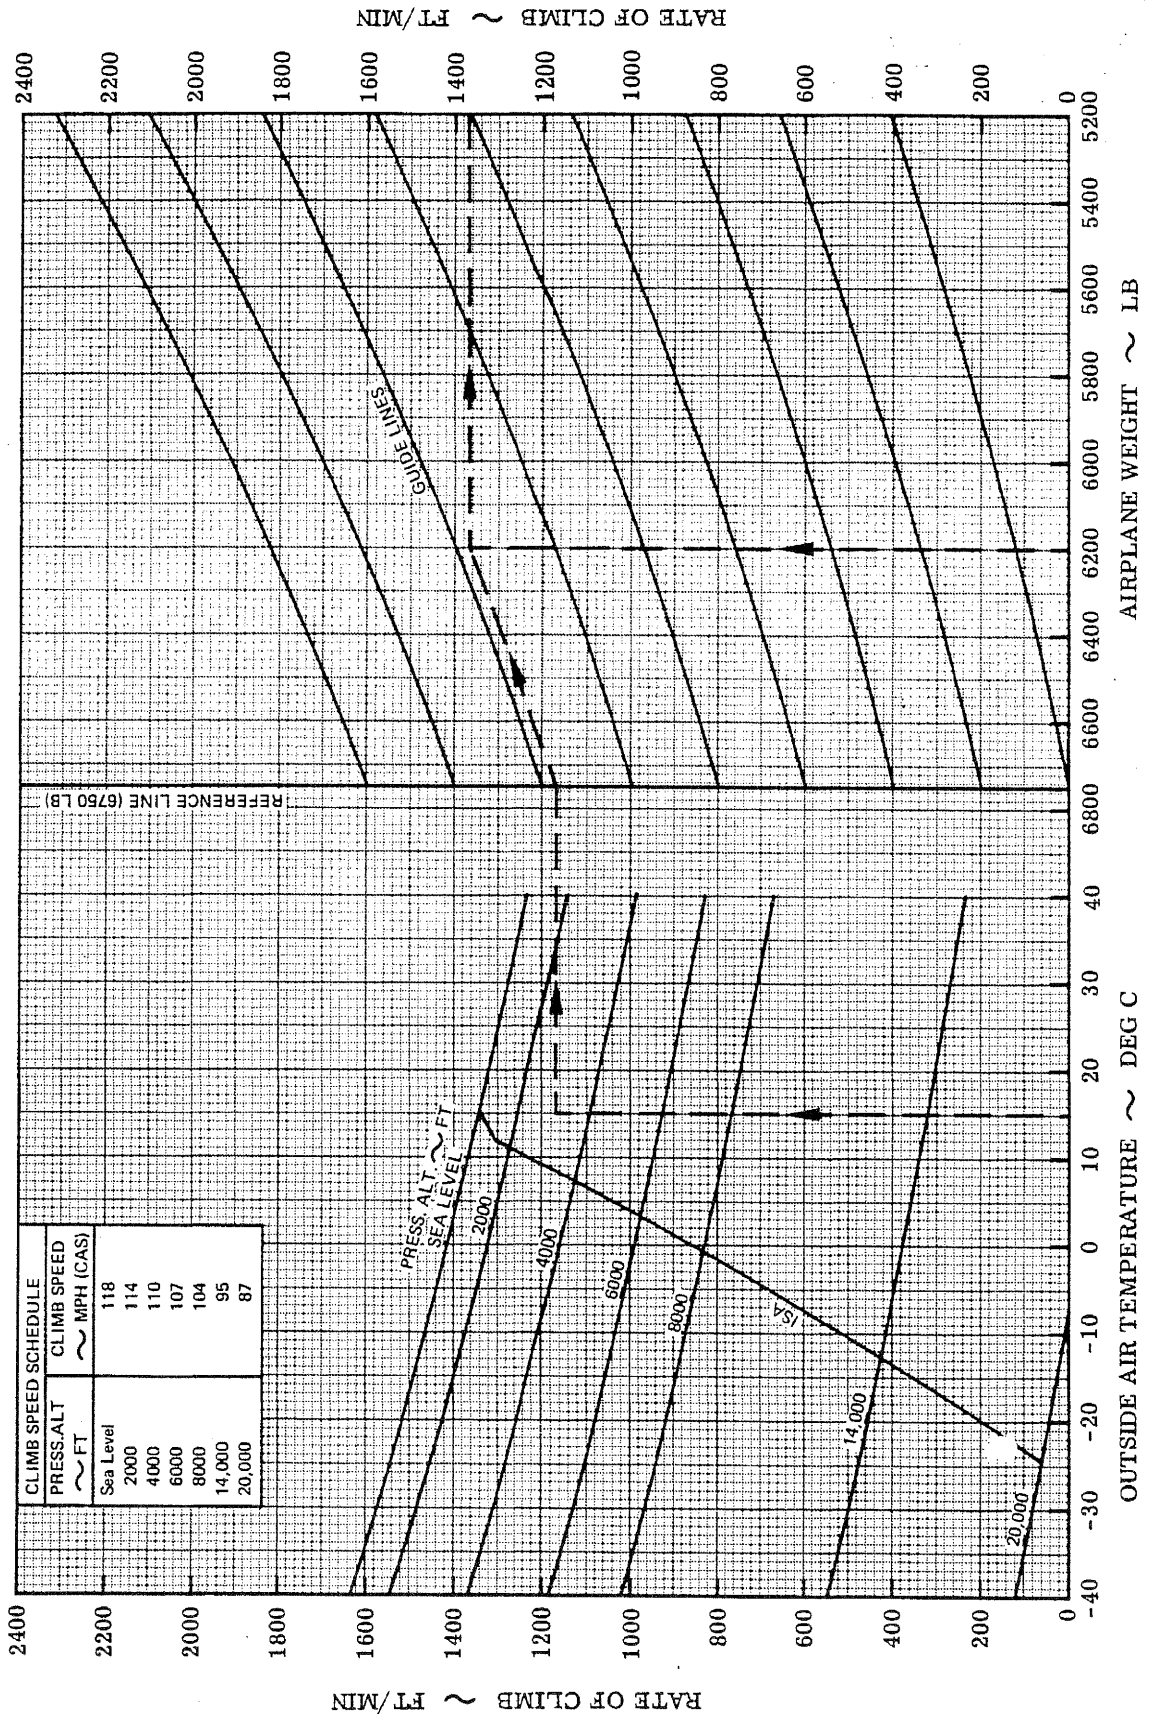

Figure 4-5.
Two Engine Rate of Climb is presented in Figure 4-5 as a function of Pressure Altitude, Outside Air Temperature and Airplane Weight.
- Rate of Climb, Fig. 4-5 1370 FT/MIN
- Scheduled Climb Speed, Fig. 4-5 112 MPH (CAS)